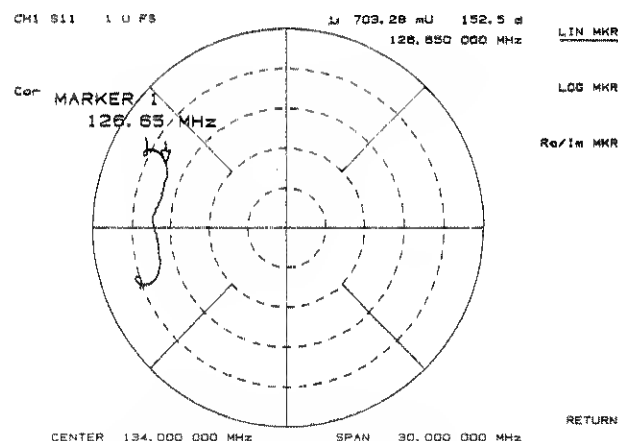

Figure 4-14. Polar Format
**[POLAR]** (POLA) displays a polar format (Figure 4-14). Each point on the polar format corresponds to a particular value of both magnitude and phase. Quantities are read vectorally: the magnitude at any point is determined by its displacement from the center (which has zero value), and the phase by the angle counterclockwise from the positive x-axis. Magnitude is scaled in a linear fashion, with the value of the outer circle usually set to a ratio value of 1. Since there is no frequency axis, frequency information is read from the markers.